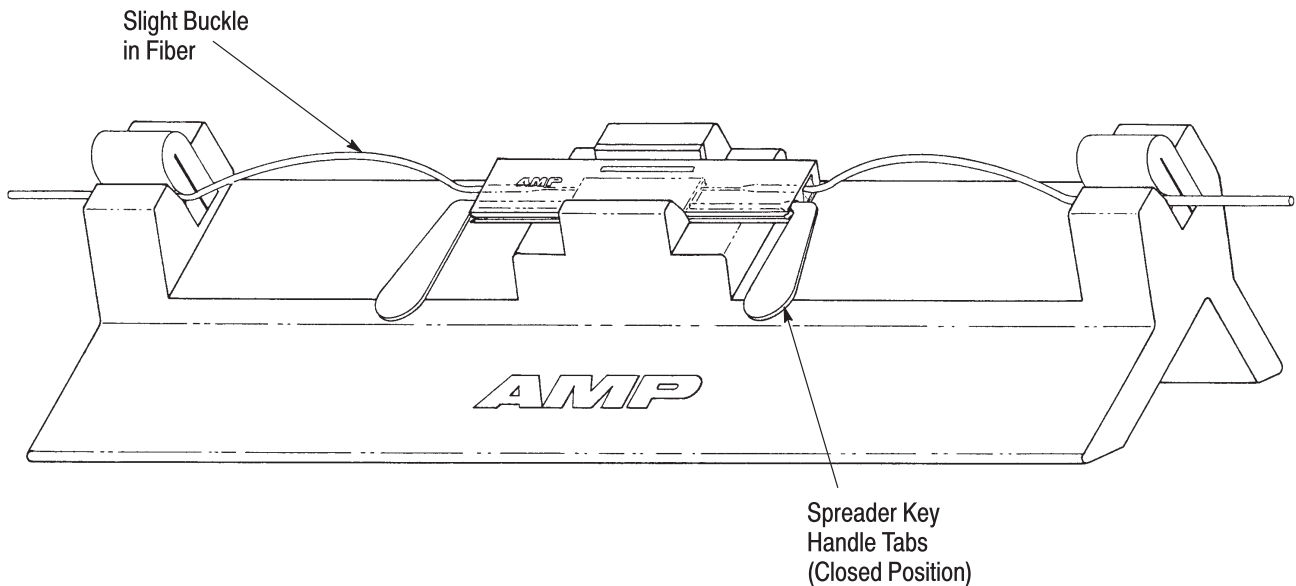

Figure 3
7. Rotate the keys 90° downward, *one key at a time*. Make sure that there is a slight buckle in each fiber in order to maintain an inward pressure on the fiber. Refer to Figure 3.